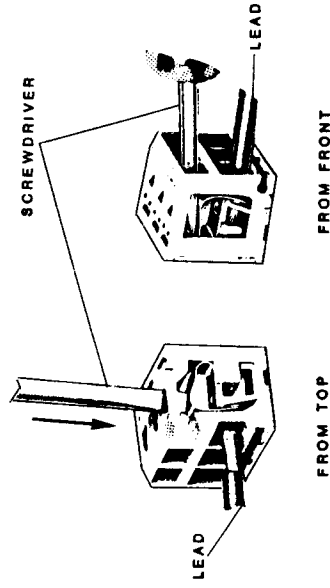

FIGURE 2-6. SPRING LOADED TERMINALS, INSTALLATION/REMOVAL OF WIRES
b. The other type of terminal block uses terminals which are individually spring loaded. To insert or remove a wire, push the tip of a small screwdriver into the slot on front of the terminal block above the wire entrance and press down on the spring. If the circuit board is removed from the housing, insert the tip of a small screwdriver in the slot on top of the terminal block and push down on the spring. See Figure 2-6.